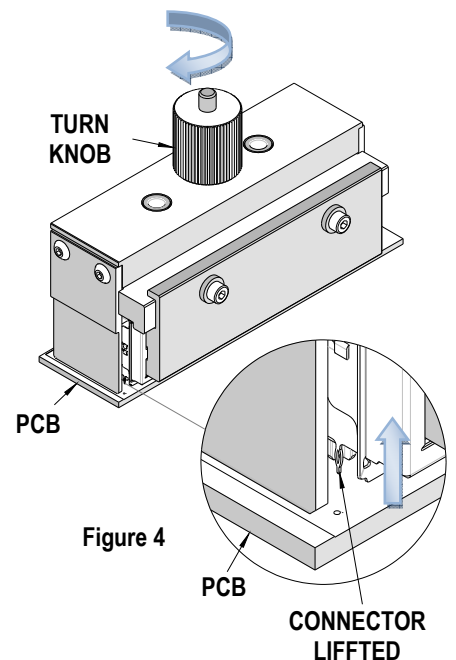

Figure 4
4. Turn the knob clockwise (CW) until the upper tool's side plates contact the PCB. See Figure 4.
6. Remove the extraction tool from the connector by removing the (2) M4 SHCS and washers.